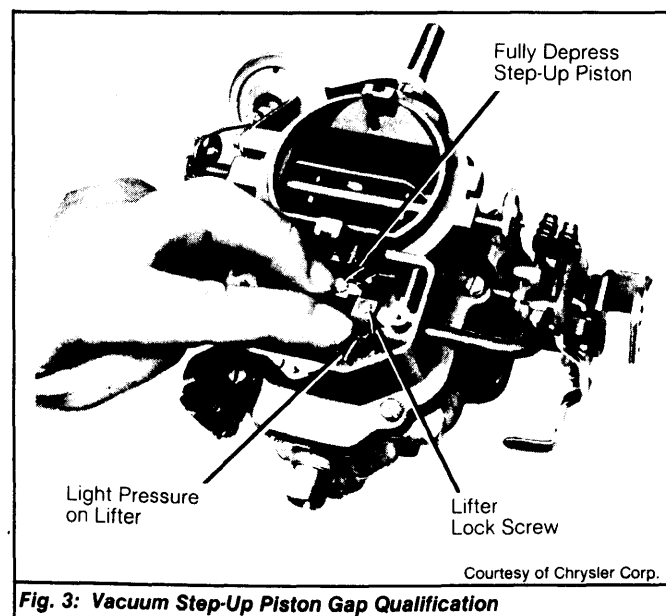

Fig. 3: Vacuum Step-Up Piston Gap Qualification
- 1) Remove step-up piston cover plate and gasket. Remove lifter lock screw and piston. Measure piston gap. See Fig. 3.